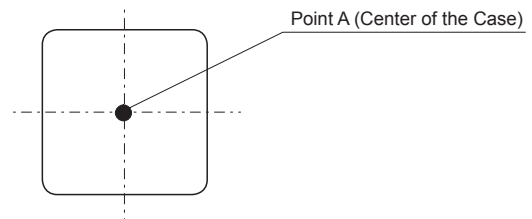

Fig.8.1 Temperature Measuring Point on the case (Top View)
- Please have sufficient ventilation to keep the temperature of point A in Fig.8.1 at 105°C or below.